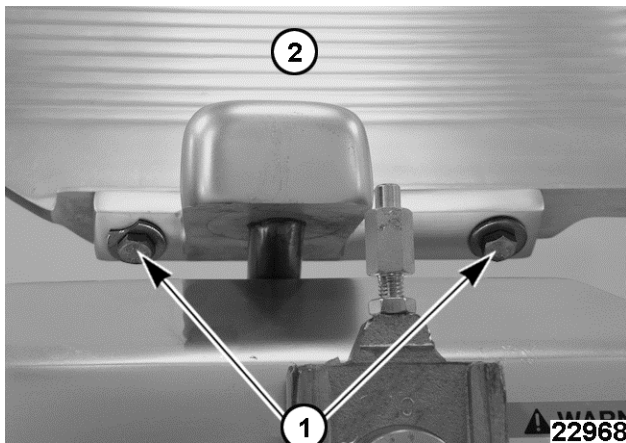

Fig. 8
5. Remove the gauge plate bolts (1, Fig. 8).
6. Remove the gauge plate (2, Fig. 8).